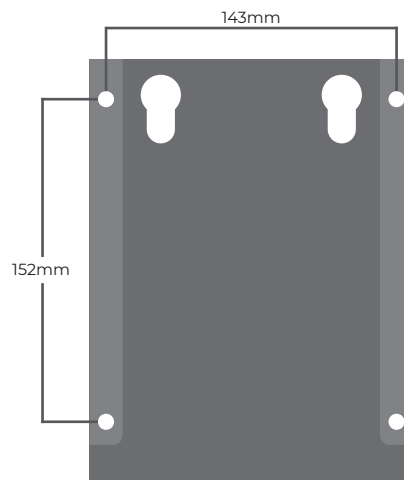

Fig. 5.4.2
1. Refer to the Fig. 5.4.2 to understand the dimensions of the wall bracket. Please make sure the space on the wall is at least 5.62" × 5.98" (143mm × 152mm).